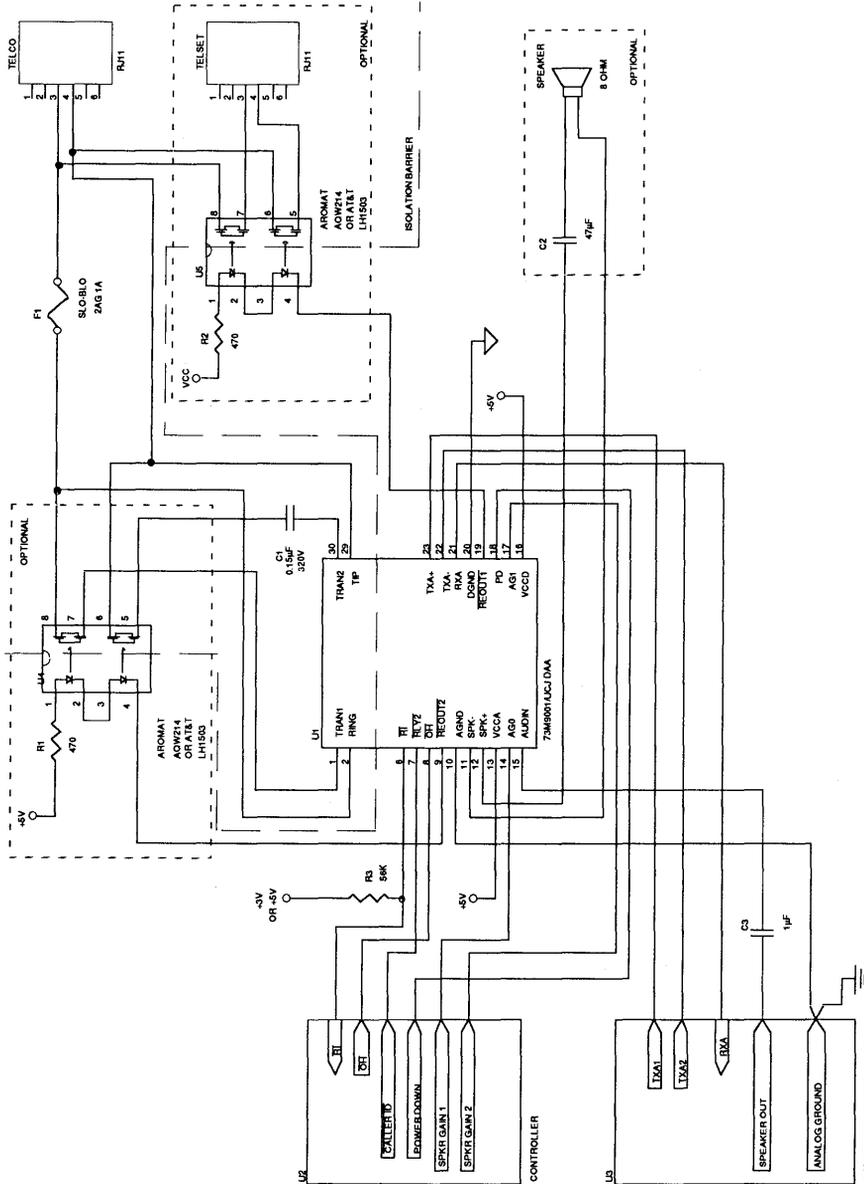

FIGURE 2: Typical Application
In the application shown in Figure 2, the 73M9001/UCJ is being utilized for a high speed fax/modem with caller ID notification. When a call comes in on the phone line, the Ring Indicator (\overline{RI}) becomes active. The controller responds by driving the Power Down (PD) low and the Relay #2 ($\overline{RLY2}$) low. This wakes the DAA from its standby mode and capacitively connects the phone line to the 73M9001/UCJ to receive the Caller ID information. This information is then sent to the data pump through the Receive port (RXA). After receiving the Caller ID, the controller drives the $\overline{RLY2}$ pin high. If the controller decides to answer the call, it drives the Off Hook (\overline{OH}) low. The DAA goes off-hook thus enabling data to be sent from modem to modem via the Receive and Transmit (TXA+,TXA-) ports.
It is possible to extract the Caller ID signal, also known as Automatic Number Identification or ANI, by utilizing the TRAN1 and TRAN2 connections on the 73M9001/UCJ. Between the first and second rings of an incoming call, the PSTN's central office will transmit a short burst of data at 1200 bit/s using the Bell 202 modulation standard. This data contains the date, time, and number of the calling party. You can glean this data from the phone line by switching Tip and Ring to TRAN1 and TRAN2 through a 0.15 μF, 320 V capacitor. The Caller ID data will be presented at RXA for your modem to demodulate (See Figure 2). When this Caller ID circuit is used, the gain from Tip and Ring to RXA is